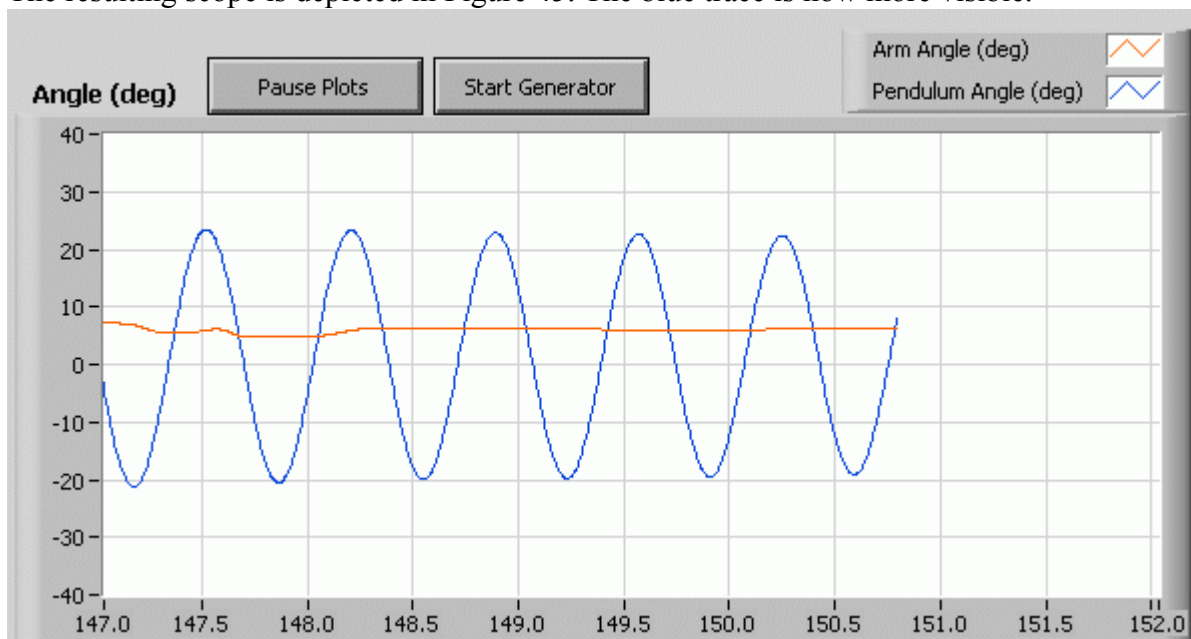

Figure 45: Y-axis of scope has been adjusted.
- The resulting scope is depicted in Figure 45. The blue trace is now more visible.